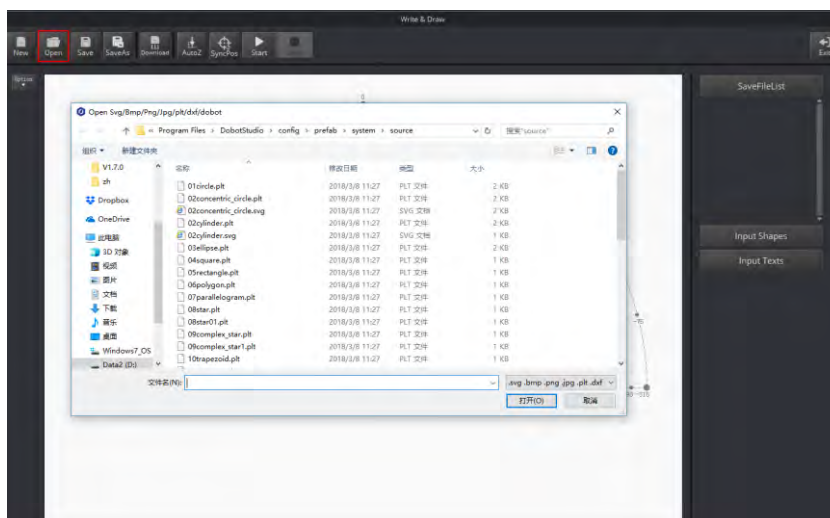

Figure 5.43 Open a PLT or SVG system image file
- Click **Open** on the **Write & Draw** page to import a built-in PLT or SVG image file from the DobotStudio installation directory **InstallatonDirectory\DobotStudio\config\prefab\system\source**, as shown in Figure 5.43. You can also import your custom PLT or SVG image file.